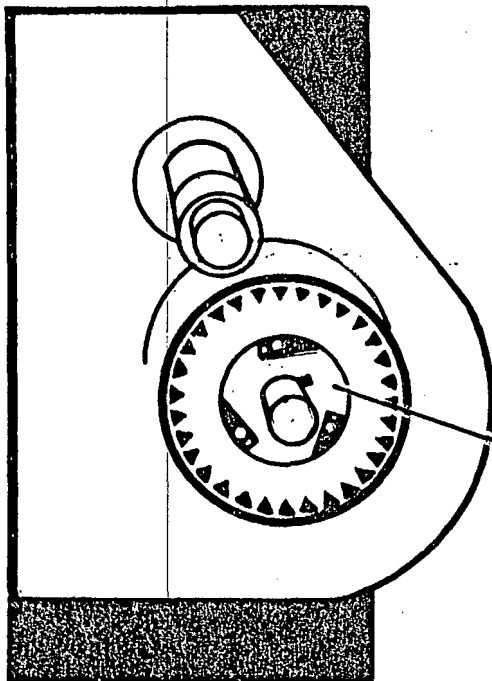

Figure 18
18. Notice the overriding clutch (part No. OQ-24) inside of the OQ-25 gear. (See Figure 18) Take a good look at this over-riding clutch assembly in its proper position. The milled slots in the over-riding clutch OQ-24 should point toward
7. Next place C-298 oil seal inside C-299 holder, then slide oil seal and holder over end of C-315 shaft, which projects through inner gear guard below spindle. See Figure 18. Drive oil seal and holder against surface of inner gear guard.
23. Now slide over-riding clutch OQ-24 and OQ-25 over-riding clutch gear on OQ-38 shaft as a unit, making sure milled slots in OQ-24 over-riding clutch point to front of lathe, or toward operator. See Figure 18. Figure 21 illustrates assembly to this point.